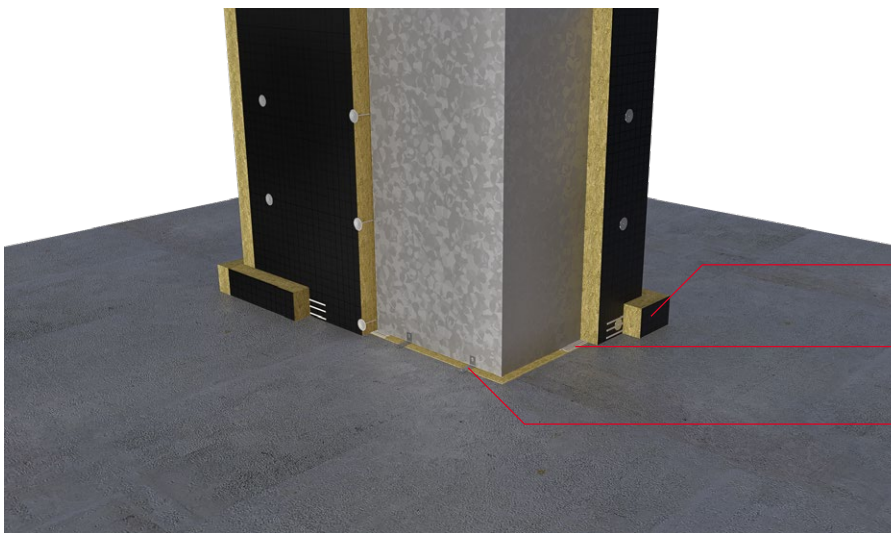

Figure 11a
1. Maintain a 30mm gap between the ductwork and floor structure. Fill the gap between the duct and the floor structure with a ROCKWOOL Slab e.g. ROCKWOOL RWA45 as shown in Figure 11a. The flexible slab can be sealed within the void using FIREPRO® Glue.
3. Apply a DuctRock® collar to the perimeter of the aperture and on both sides as shown in Figure 11a. The collars can be fixed using FIREPRO Glue and temporarily held in place with nails until the glue cures.